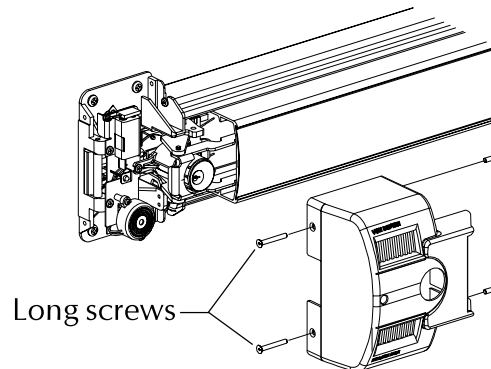

Figure 12
- 9** Install center case cover (Figure 12). Use long screws where shown for tamper resistance.